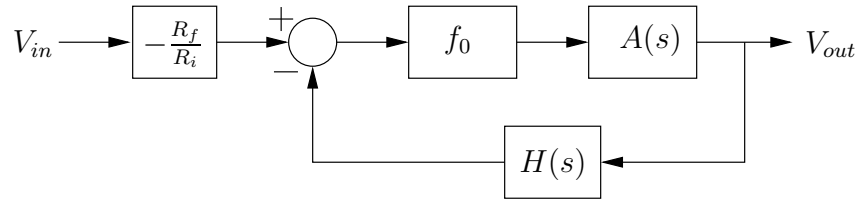

Figure 4: General Block Diagram Form
3. For each of the following circuits, draw the block diagram, normalized so that the closed-loop expression $-\frac{R_f}{R_i}$ appears outside of the loop, as in Figure 4.